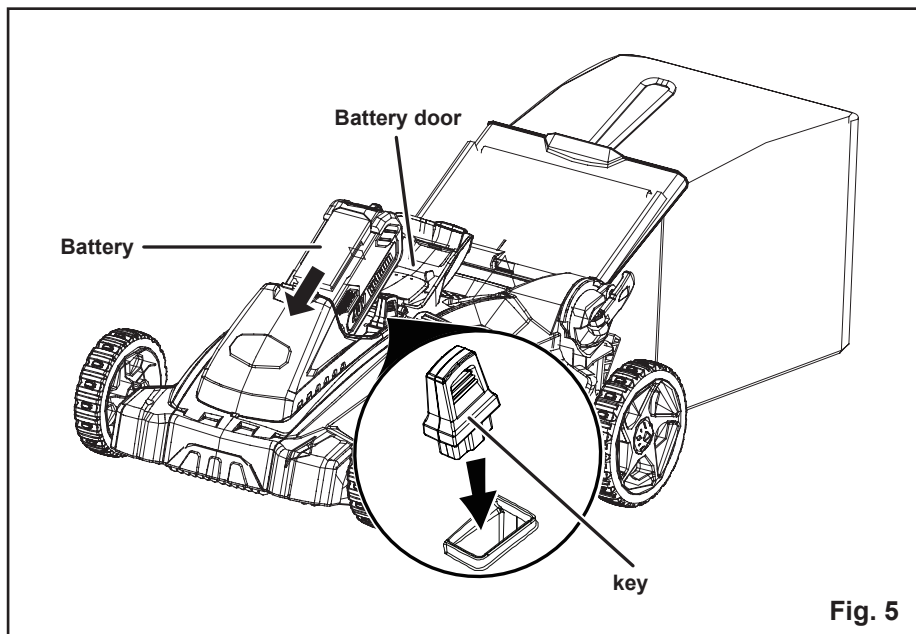

Fig. 5
TO INSTALL BATTERY PACK (See Figure 5)
TO REMOVE BATTERY PACK (See Figure 5)
- Open the battery door and insert the key into the slot. (See Fig. 5)